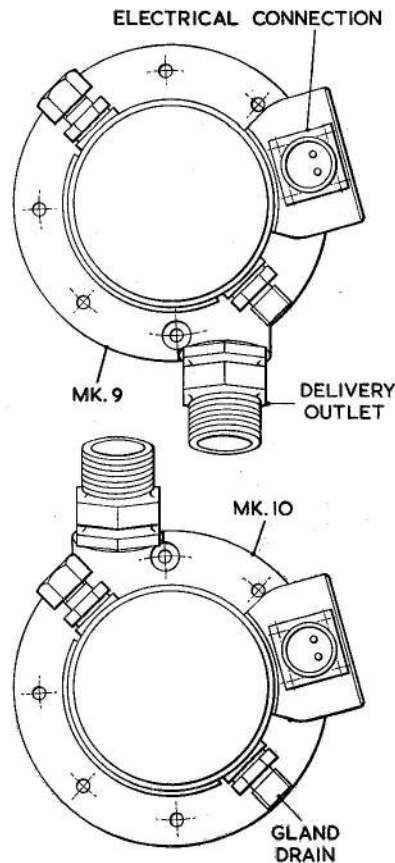

Fig. 10. Alignment of delivery outlet and electrical connection
(2) Fit the joint washer (2) and delivery adaptor (1) to the pump casing (10) after checking that the breather assembly is in position and undamaged (para. 7(3)).
(3) Fit the impeller pin (51) through the hole in the pump shaft and position the impeller nut (12) on the shaft.
(4) Position the pump casing over the studs in the correct angular position relative to the electrical connection on the motor unit (fig. 10). Ensure that the motor spigot is clean and that the casing can be pushed fully home.
(5) Fit the impeller (5) to the motor shaft, engaging the pin in one of the four impeller slots.